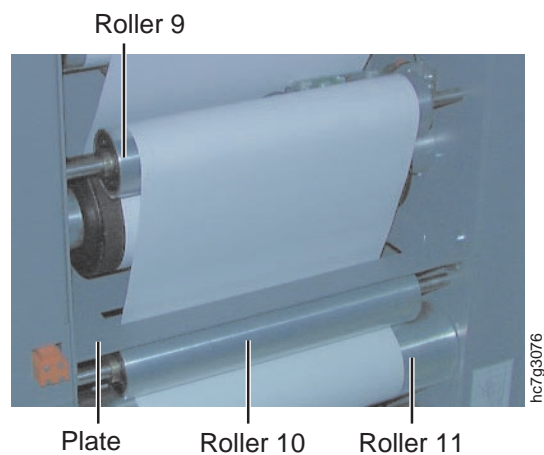

Figure 314. Threading Around Rollers 9 and 10
18. Thread the print medium around roller 9, through the plate, and behind roller 10, as shown in Figure 314.